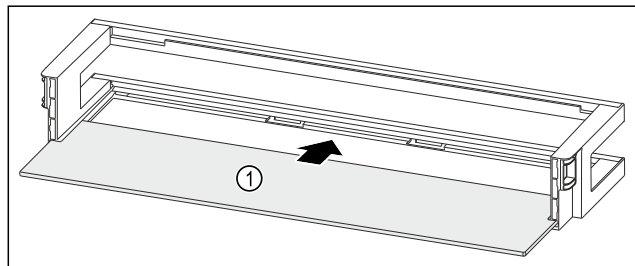

Fig. 135 Door rack with shelf
- ▶ Push the shelf *Fig. 135 (1)* into the side recesses.